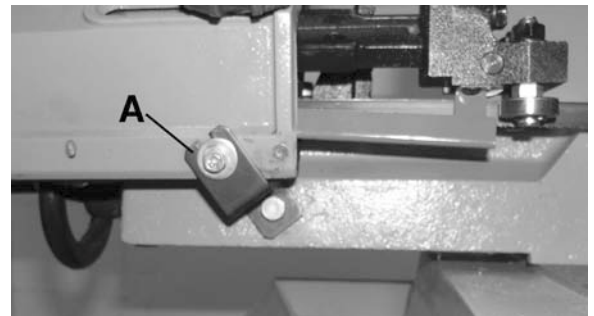

FIGURE 4
For transportation purposes, this bandsaw comes with the head bolted to the machine base, see shipping bracket (A) Fig.4. Remove both bolts and bracket. Do not throw these parts away, in case you need to ship your machine.